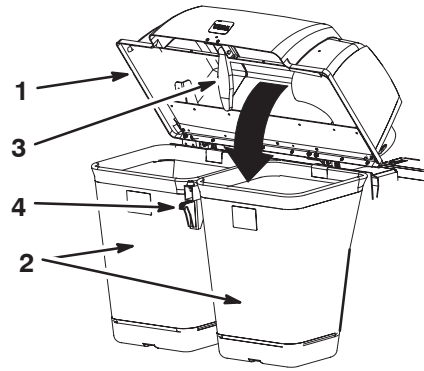

Figure 24
5. Position the bagger latch under the latch hook (Figures 24 and 25).